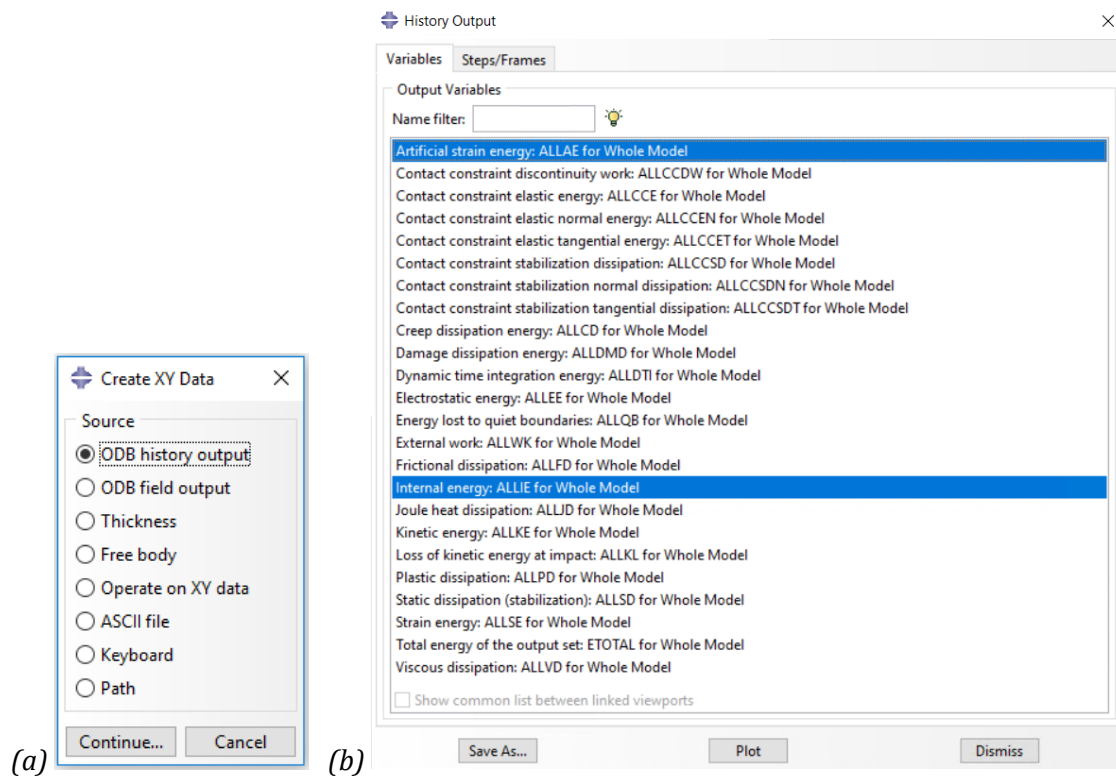

Figure 2-39 – (a) The Create XY Data dialog box and (b) The History Output dialog box.
1. Use the **Create XY Data** tool  (or **Tools** → **XY Data** → **Create** in the main menu bar). This opens the **Create XY Data** dialog box, see Figure 2-39(a). As **Source**, use **ODB history output**. Select **Continue**.
2. In the **History Output** dialog box, click on both **Artificial strain energy: ALLAE for Whole Model** and **Internal energy: ALLIE for Whole Model**. See Figure 2-39(b). Select **Plot** to plot the data in the viewport.